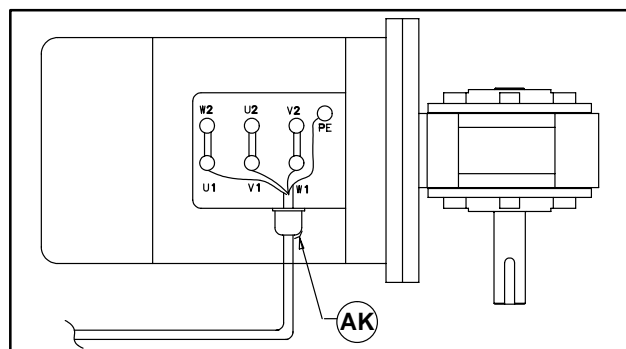

Figure 42
- b. Record wire colors on terminals U1, V1, W1 & PE (Figure 42). Loosen terminals U1, V1, W1 & PE and remove wires.
- c. Loosen cord grip (AK of Figure 42) and remove cord.